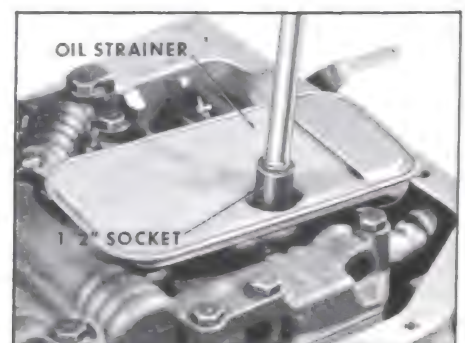

Figure 5-104
1. Remove bolt retaining oil strainer to valve body using a 1/2" socket. See Figure 5-104.